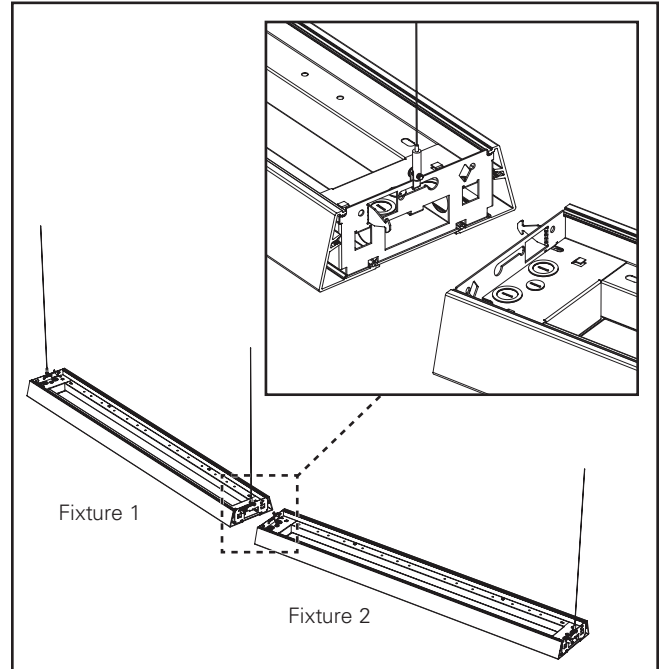

Figure 6.
1. Install first fixture with two AC cable assemblies, then each additional fixture with one additional cable at the opposite end of the joint. (Figure 6.)